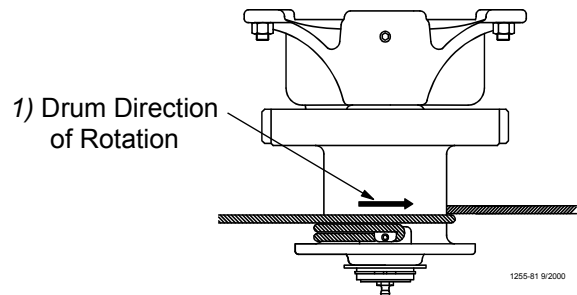

Figure 11. Power Winch Drum Rotation
5. Turn the winch drum one full revolution. Guide the cable against the flange at the bottom of the winch drum. The cable must not wrap over itself on the drum, but should be wrapped as close as possible to each previous wrap. See figure 11. **“Figure 11. Power Winch Drum Rotation” on page 12**